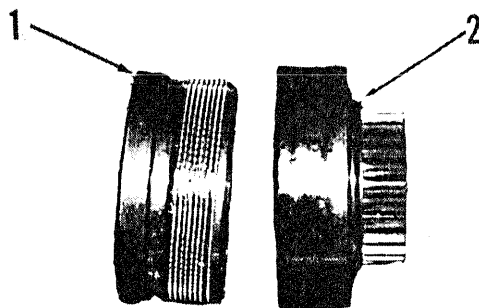

Figure 21
**THE HYDRAULIC CLUTCH MUST BE SERVICED IN A CLEAN AREA.** The clutch pack contains two parts: The clutch (1), Figure 21, contains friction discs and separator plates, and the clutch spider (2). The two parts are not fastened together and may be separated by sliding them apart as shown. The clutch is held together by six flat head capscrews that are locked on the back side by six allen head set screws.